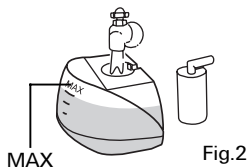
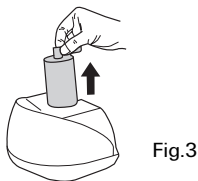

Fig.2
Fig.3
2. Fill the water tank up to or below the "MAX" fill line with the clean tap water. (See Fig.2) You can take filter out of the opening for filling water into water tank, (See Fig.3) or fill water into water tank directly with the filter existing in the opening.